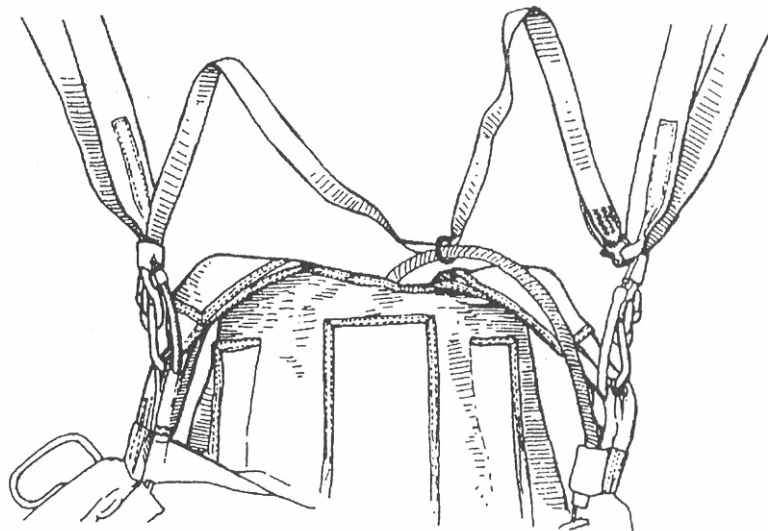

Figure 4.
Step 7. Pass one end of the RSL through the RW-3 ring, then route the ring (with the RSL still passed through it) onto the reserve ripcord housing. Route the housing (with the RW-3 ring & RSL on it) under the velcro of the riser cover, and down the outside of the yoke and into the elastic keeper. (see Figure 4) Keep the RSL loose and hanging from the ring on the backpad side of the rig.